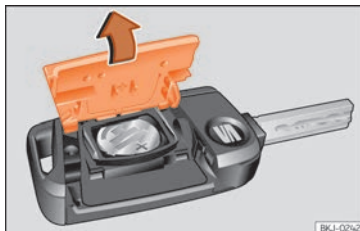

Fig. 132 Vehicle key: opening the battery compartment.
- Remove the cover from the back of the vehicle key **Fig. 132** in the direction of the arrow **①**.
- Fit the cover as shown **» Fig. 132**, pressing it onto the vehicle key casing in the opposite direction to that shown by the arrow until it clicks into place.